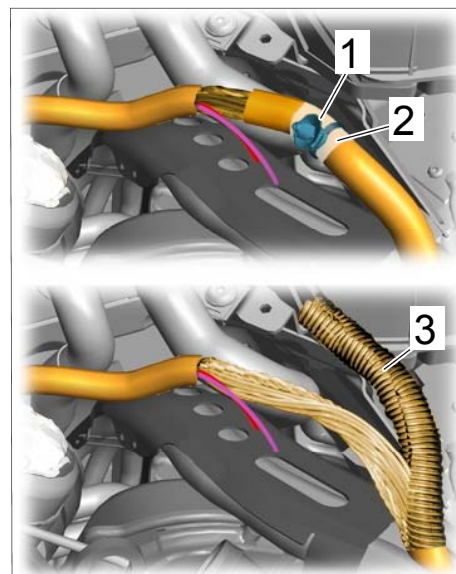

Figure 16
- 5.15 Remove tie-wrap ⇒ *Figure 16 -item 1-* and fabric tape ⇒ *Figure 16 -item 2-* on the main wire harness.
- 5.16 Open the sleeve ⇒ *Figure 16 -item 3-* on the main wire harness as shown.